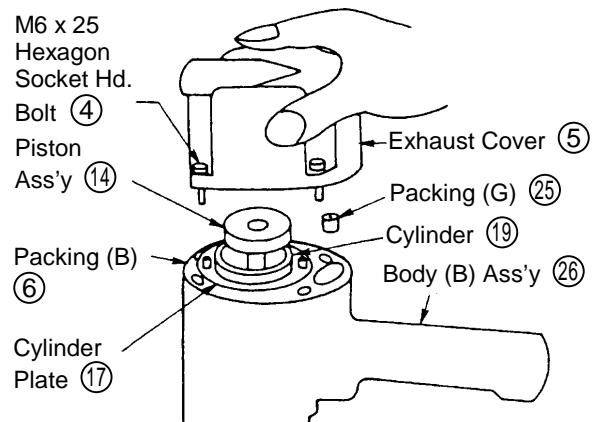

Fig. 9 Disassembly of Upper Part of Main Body
- Loosen the four M6 x 25 Hexagon Socket Hd. Bolts ④, and remove the Exhaust Cover ⑤ from the Body (B) Ass'y ②6. Packing (G) ⑯, Packing (B) ⑯, and the piston Ass'y ⑭ can then be removed. (see Fig. 9)